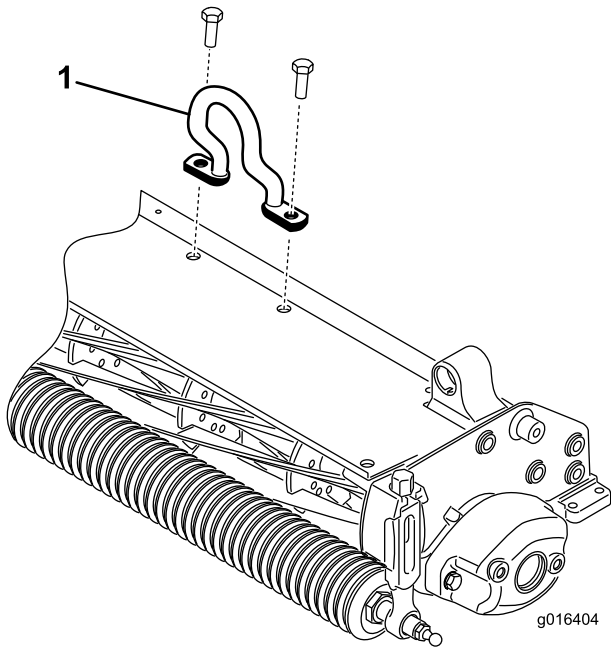

Figure 4
Install the offset link (Figure 4) to the top of the cutting unit with (2) capscrews. Torque the capscrews to 25-30 ft-lbs. (34-40 N-m).